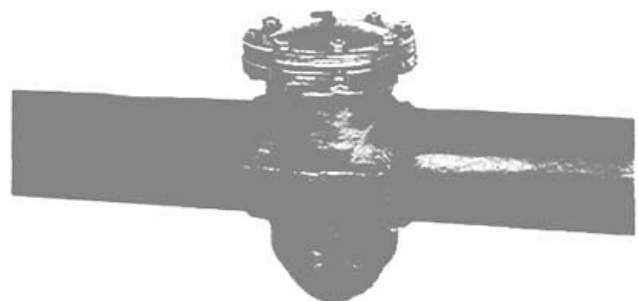

FIGURE 21
15. Bolt cap solidly to fitting flange. **Figure 21**.